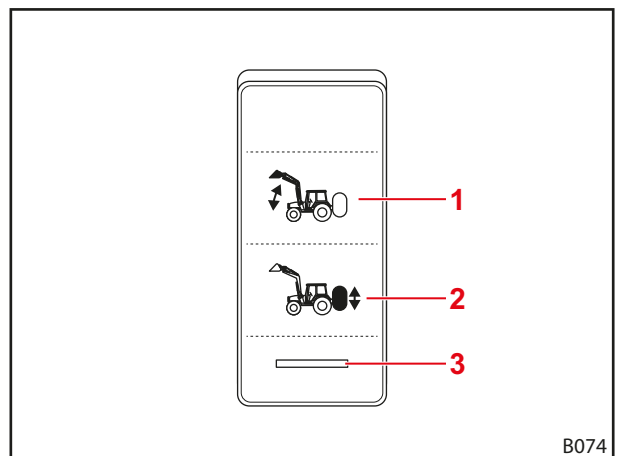

Fig. 77 Switch for Comfort hydraulic system
**i** When driving on roads and when the front loader is not needed, put the switch in the "Original Function Active" switch position (see Fig. 77) to prevent accidental actuation of the front loader!